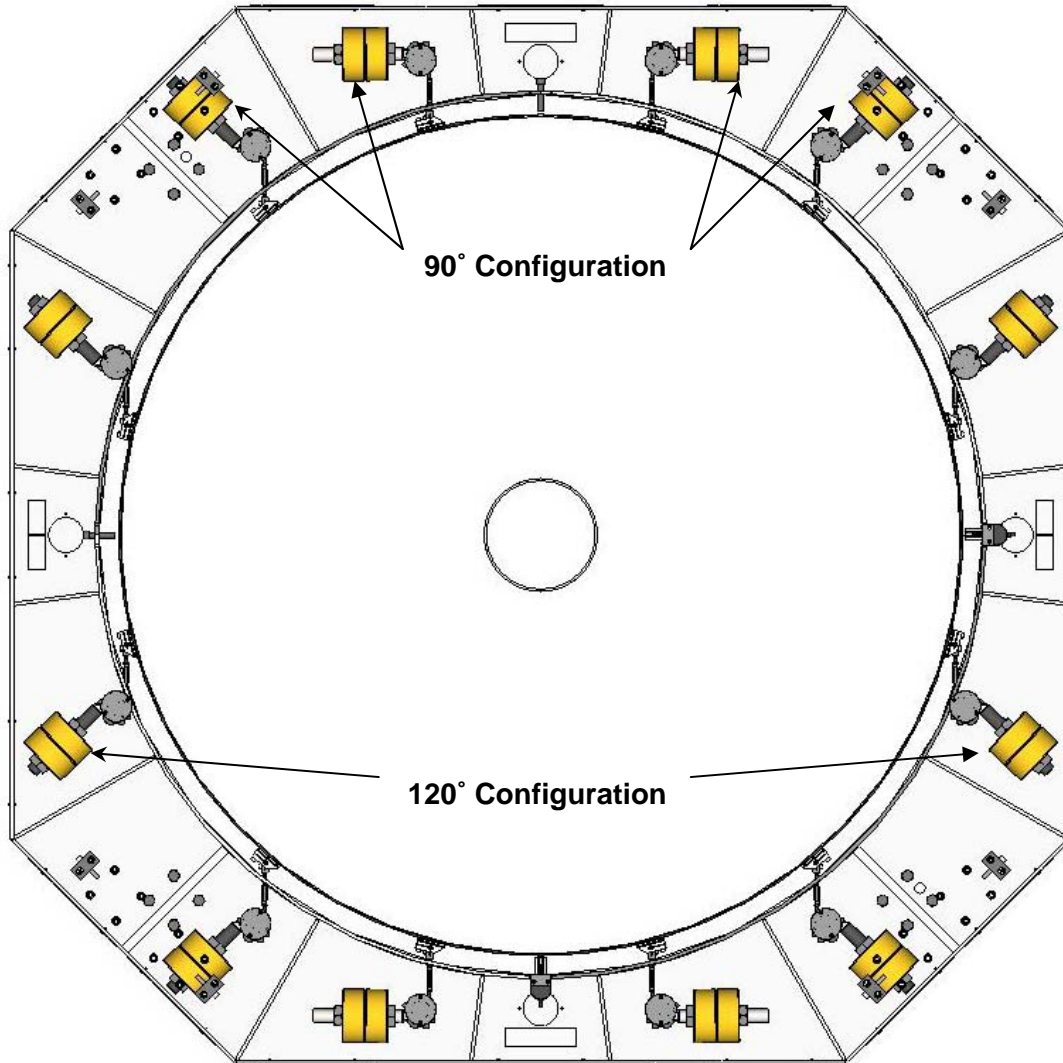

Figure 26 LSF Counterweight Configuration
35. Using a T-Square (and 45 degree angle block where necessary) set the orientation of each brass counterweight relative to the outside of the LSF by adjusting the length of the differential turnbuckles. See Figure 26.